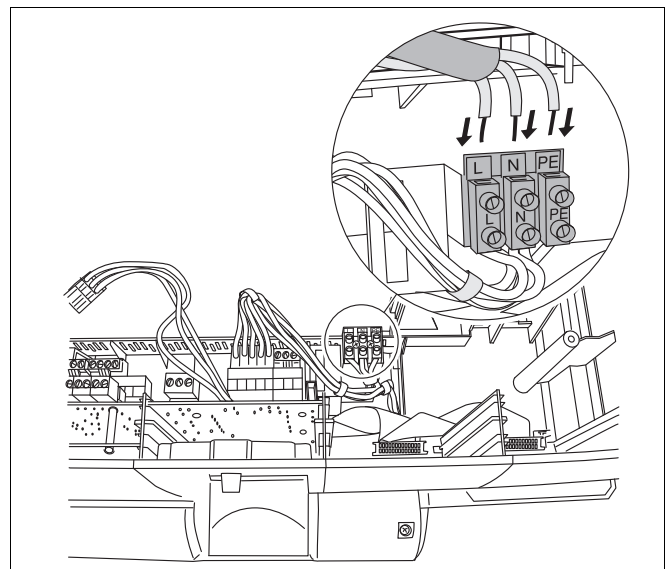

Fig. 7 Power supply
- Strip the insulation from the power cable according to regulations, and secure to the 3-pole terminal strip (→ Fig. 7).